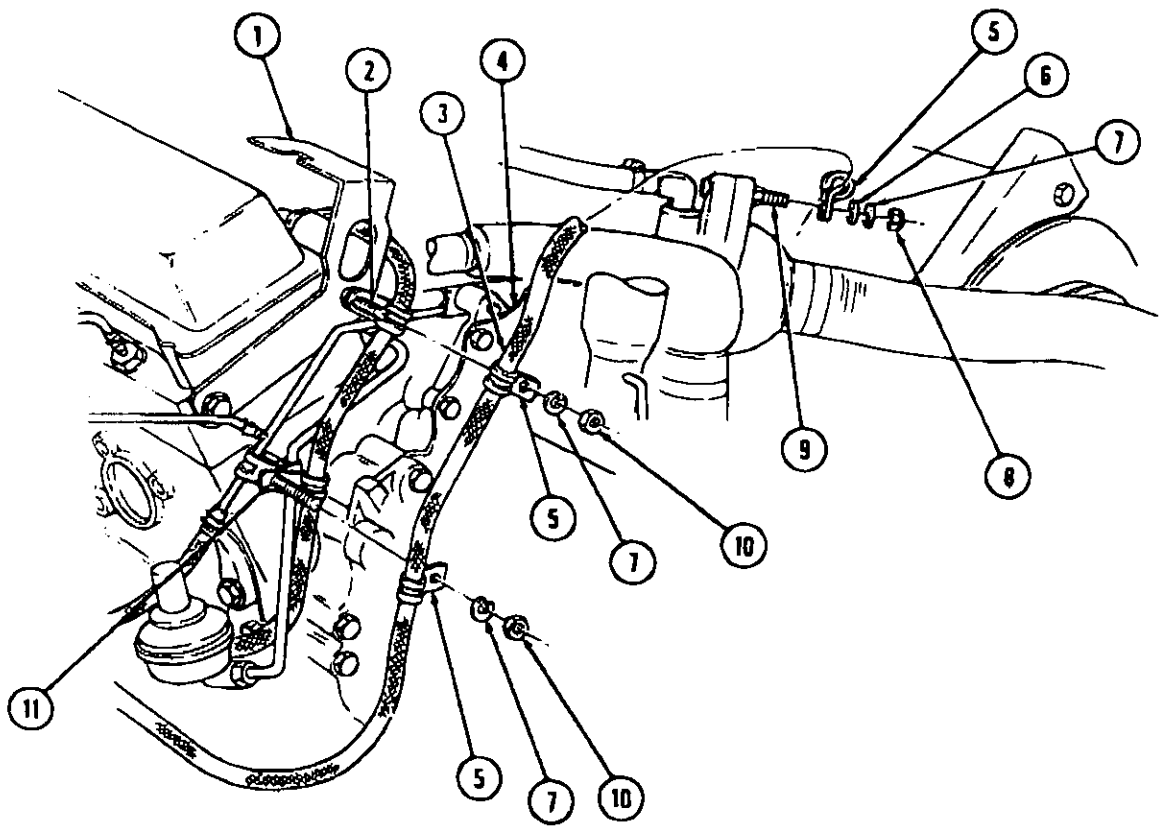

*Figure 9*
8. Install P/N 214E2V02 boot (2) on positive cable lead 6E (5) as shown in figure 9.
9. Install positive cable lead 6E (5) on positive terminal (4) of alternator (3) with washer (6) and nut (1) as shown in figure 9. Tighten nut (1) to 65 lb-in (7 N·m).
10. Apply NSN 9150-01-015-1542 grease to inside of boot (2) and slide boot (2) over nut (1) and positive terminal (4) as shown in figure 9.